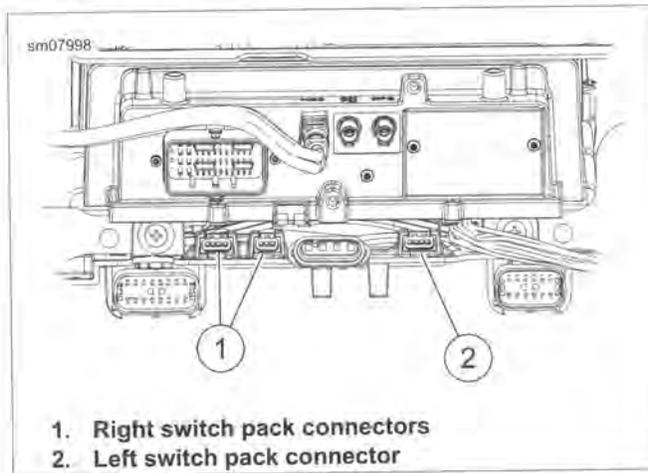

Figure 7-114. Handlebar Switch Pack Connectors: Fairing Models
- a. See Figure 7-114. Fairing models: Disconnect from forward caddy.
- a. See Figure 7-114. Fairing models: Install to connectors on forward caddy.